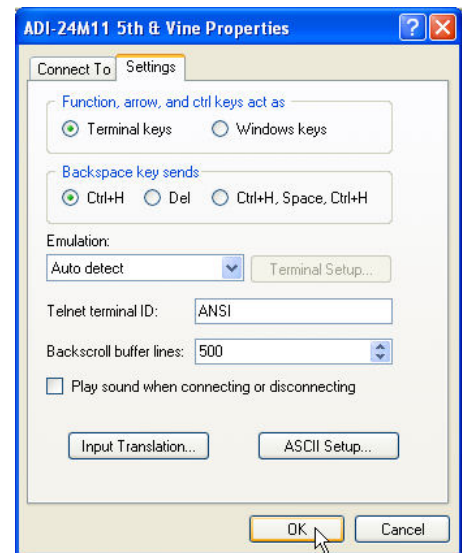

FIGURE 19
- 6 The **'BBS (ADI-24M11 5th & Vine in this case) Properties'** window appears. Click on the **Settings** tab. Fill in the fields as shown in Figure 19. Click the **ASCII Setup** button.